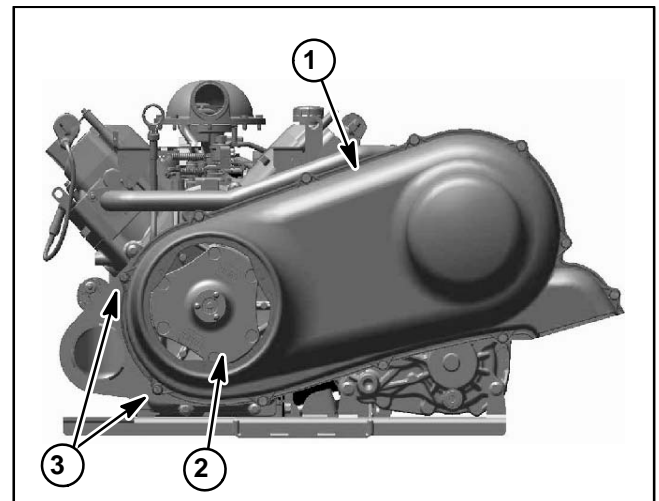

Figure 27
2. Place speed range lever in the transport (T) position to remove pressure in the speed control system.
3. Remove speed limiter assembly (item 9) with attached speed control hose from primary clutch to allow removal of CVT enclosure cover (see Speed Limiter Assembly in this section).
4. Remove washer head screws (items 14 and 15) that secure CVT enclosure cover (item 13) to spanner plate (item 16). Note that two (2) longer screws are installed on the air intake end of the cover (Fig. 27).